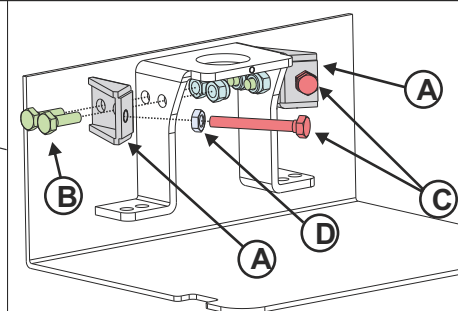

Fig. 39
6.2. Fix the two stop supports «A» to the box using the provided screws «B» and their fixing bolts (Fig. 39)
6.3. Insert the two «stop screws» «C» into the special housings on the stop supports, using the bolts «D» as shown in (Fig. 39)